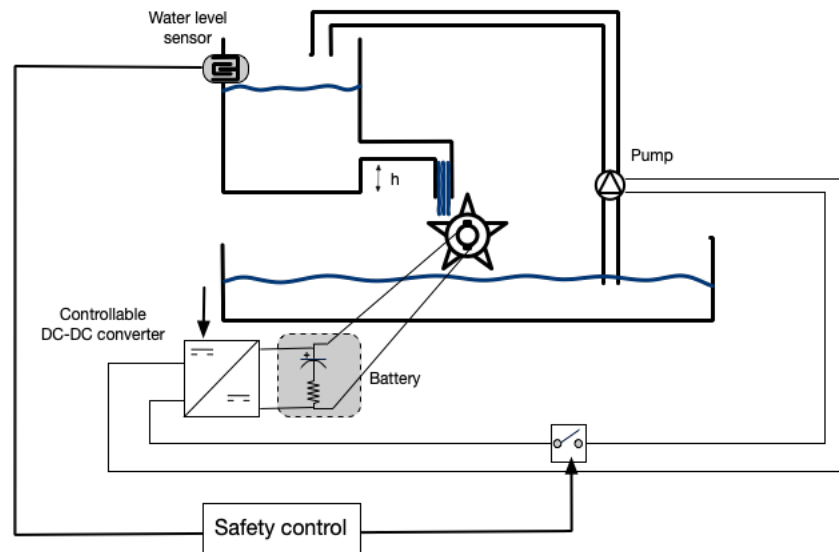

Figure 2: Water reservoir system.
- Another, more concrete idea, is given by the system of Figure 2, illustrating a reservoir of water from which water flows into a turbine. The turbine recharges a battery that a pump can use to bring water up the reservoir again from a lower reservoir (assumed of unlimited capacity). The battery output voltage can be regulated by means of a DC-DC converter to apply the desired voltage to the pump. Initially, consider that $h = 0$.
- In the system of figure 2, consider $h \neq 0$, and model the resulting hybrid dynamics from this change.